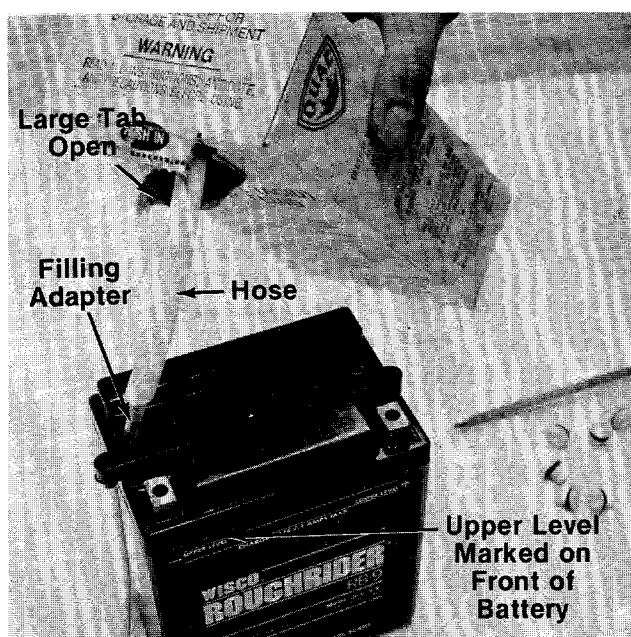

FIGURE 11.
6. Pull out hose from package and hold upright. Squeeze hose forcing all acid back into package. Cut off tip of hose and insert filling adapter. See figure 11.
7. Fill each cell to upper level marked on front of battery. Replace fill caps on battery. See figure 11.